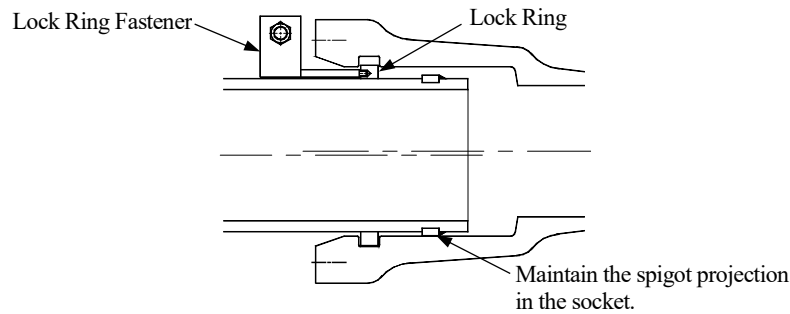

Figure-15 Lock Ring Fastener and Lock Ring
- (1) Align the joint before engaging the Lock Ring. Maintain an adequate space at the top of the joint for the Lock Ring Fastener. Insert both the pointing portions of the fastener into the holes of the Lock Ring. Turn the fastener nut by hand and with a wrench to make space in the slot for the Connecting Piece III. Hold the fastener securely to avoid coming apart from the fastener while turning the fastener nut. Do not overturn the nut. (See Figure-15.)